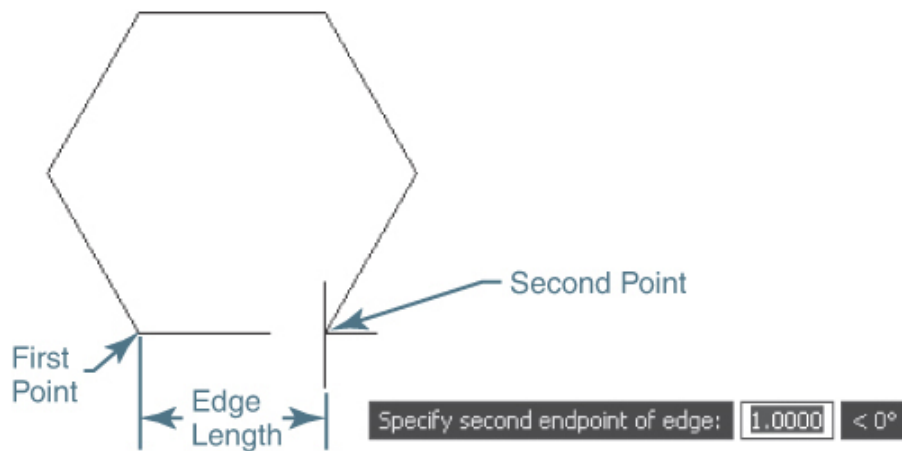

Figure 9-30
After you select the **Edge** option, you can either pick a point or type in a coordinate value to locate the starting point of one of the sides. AutoCAD then prompts *Specify second endpoint of edge:*. The second point determines the length for all the sides specified and the rotation angle of the finished polygon, as shown in Figure 9-30.
- 4 Next to the polygon created in step 3, draw a six-sided polygon with an edge length of 0.500" similar to the polygon shown in Figure 9-30 using the **POLYGON** command and the **Edge** option.